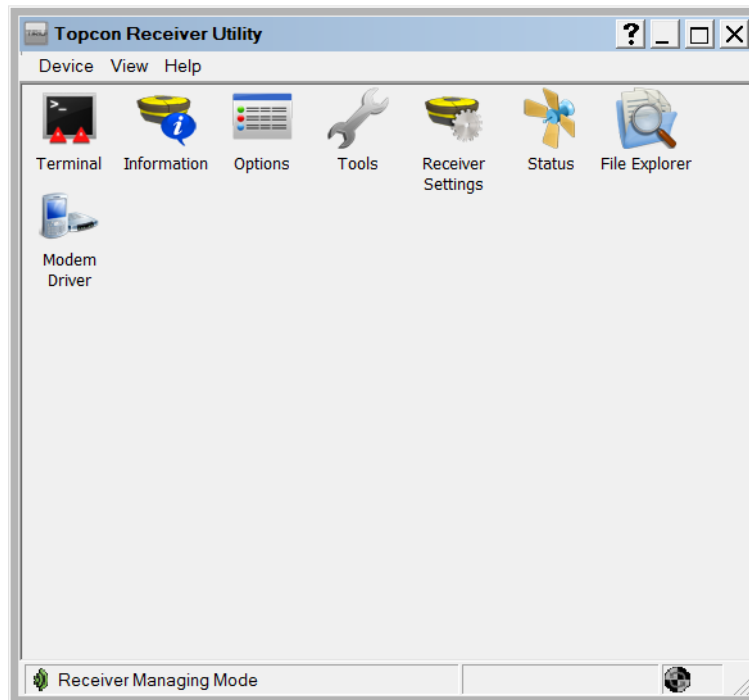

Figure 55: Click Options
- Click **Options** (Figure 55). The **Receiver Options** screen displays.